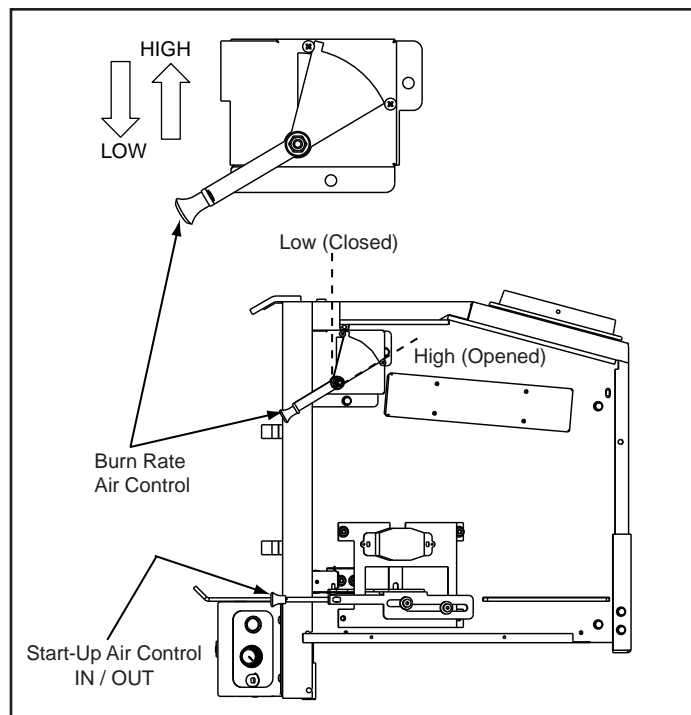

Figure 11.1 Activating Timer
- When the control is raised all the way up it is on the High setting and when pushed all the way down it is on the Low setting. **Figure 11.1.**
1. This appliance has a timer system (ACC) that operates the appliance at its maximum efficiency removing any guess work for the homeowner. Follow the instructions below for each burn rate for the Start-Up Air Control and Burn Rate Air Control. **Figure 11.1.**